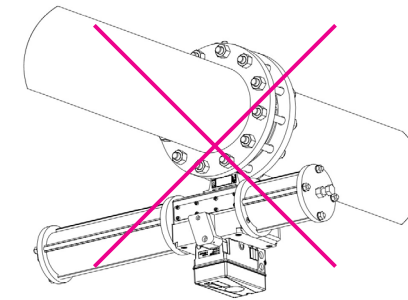

Fig. 2 – Mounting of the actuator in a position facing downwards, should be avoided.
- 1 Release the bolts (2) and remove them together with the washers (52). The cylinder covers (1) with their O-rings (49) can now be removed. Also remove the cylinders (3) by withdrawing them from the housing (5).
- 2 Remove the screws (60) from the top and underside of the actuator.
- 3 Then remove the cover (4) and base (70).
- 4 Remove either of the circlips (39) and press out the pin (10). Now lift out the entire linkage mechanism (Fig. 2) from the actuator, but don't start dismantling it just yet.
- 5 If the actuator has two pistons (19), fit a ring spanner to each piston nut (51), and then turn the spanners anti-clockwise until one of the nuts is released. Remove the nut, washer (50) and piston
(19). Then withdraw the piston rod (17) from the actuator.
- 1 Make sure that all parts have been thoroughly cleaned. Wipe clean the cylinders (3), bearing surfaces of the lever (6), and other sliding surfaces.
- 2 If the linkage mechanism (Fig.2) has been dismantled, re-assemble it. Fit the links (13), including the bearings (12) to the lever (6) using the pins (11) and circlips (39).
- 3 Grease the O-rings (36) and fit them onto the lever (6).
- 4 Grease the O-rings (43) and fit them into the seal holders (44).
- 5 Rub a thin layer of grease onto the piston rod (17). Carefully push the piston rod into the bearing (16), past the O-ring (43) and out through the corresponding bearing on the other side of the housing.